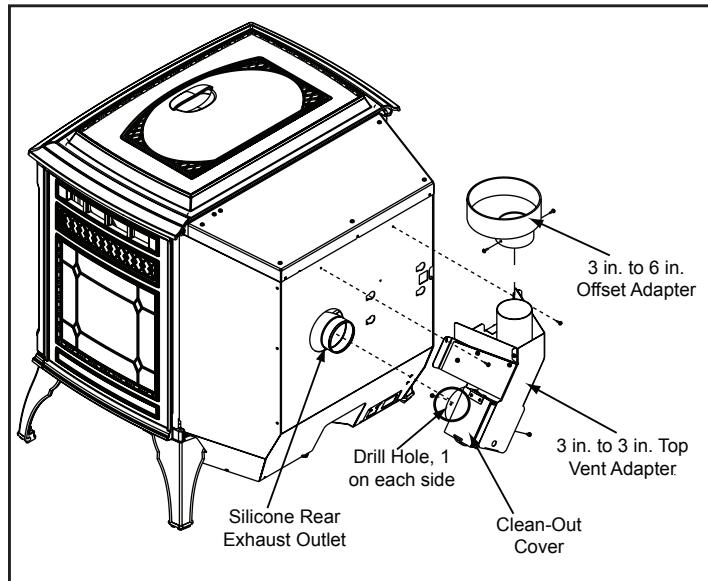

Figure 18.1
1. Put a layer of high temperature silicone on the 3 inch (76mm) exhaust outlet. **Do not put silicone inside of pipe.** **Figure 18.1**
2. Slide the top vent adapter onto the rear exhaust outlet and adjust the assembly to a vertical position until the top of the flue outlet is centered and is in a level position. **Figure 18.1**